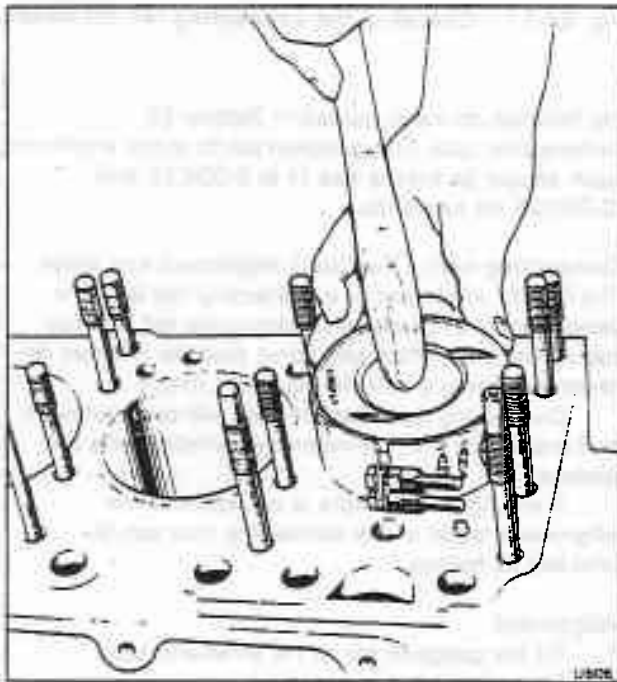

Fig. E6-13 Fitting a piston
6. Tighten the piston ring compressor, hold it against the cylinder liner and push the piston into the bore (see fig. E6-13).